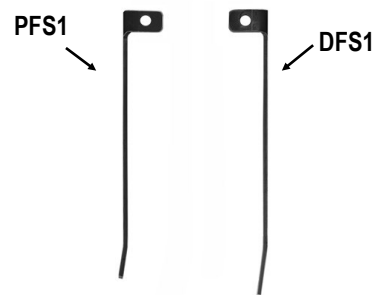

Fig 13
Select (1) Passenger Front Long Support Bracket (PFS1), (Fig 13). Determine the correct factory hole to use: